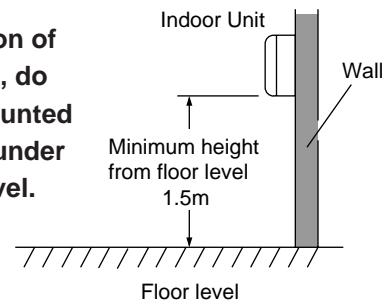

**Fig. 2a**
- install the unit within the maximum elevation difference (H) above or below the outdoor unit and within a total tubing length (L) from the outdoor unit as detailed Table 1 and Fig. 2a.